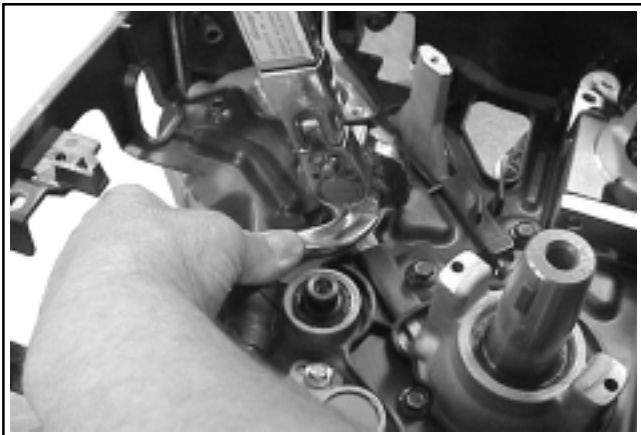

Figure 11-67. Torquing Cap Nut.
9. Push down on the formed tube and hold in this position to prevent it from pivoting upward when tightening the hex. cap. Torque the hex. cap portion of fitting to **22.6 N·m (200 in. lb.)**, to secure the joint connection and lock ferrule to tube. Support the fitting with a wrench while tightening the cap, to prevent applying unnecessary pressure on fitting and joint. See Figure 11-67. Check that the formed tube and hose section to pump have not been pulled up.